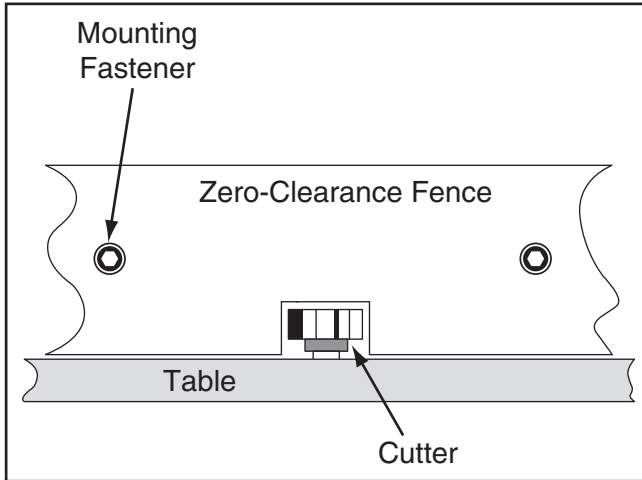

Figure 25. Example of a zero-clearance fence.
- Cut an outline of the spindle and cutter from the center of the stock selected in **Step 3**, as illustrated in **Figure 25**.